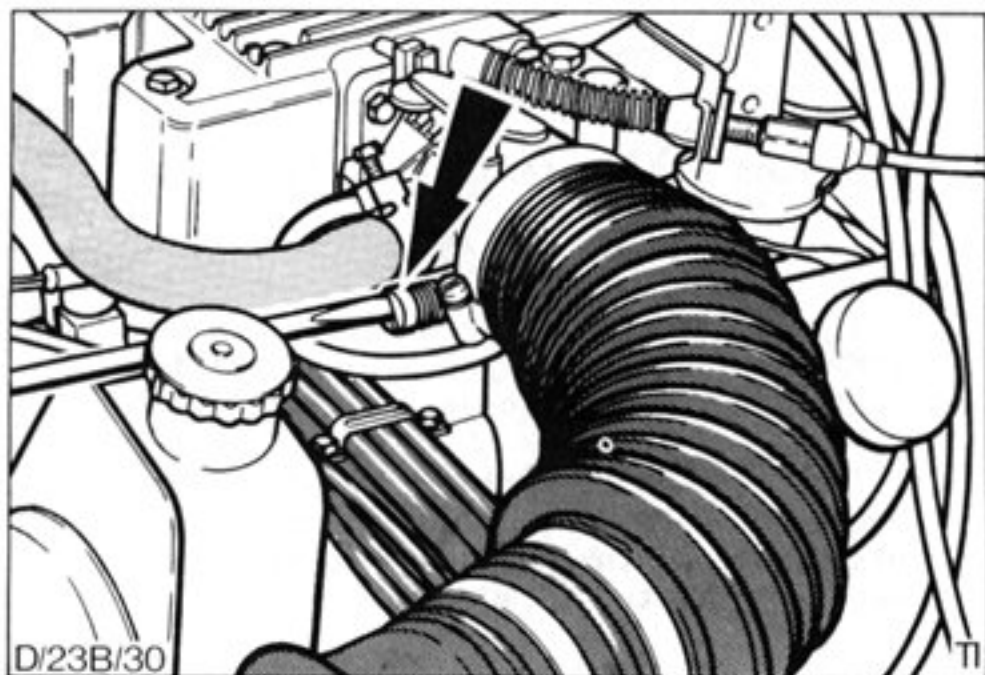

Fig.70. Engine idle speed adjusting screw.
6. Adjust idle speed screw to achieve correct idle RPM, Fig.70. (Refer Technical Data section)